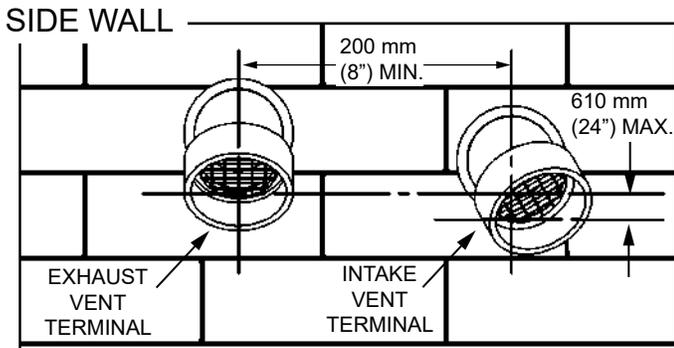

Figure 16. Sidewall Vent Clearances
**Important:** When terminating the vent on a side wall, the following specifications pertaining to terminal location must be followed. See *Figure 16*.
4. To avoid exhaust recirculation, the air intake terminal may be rotated away from the exhaust vent terminal. See *Figure 16*.